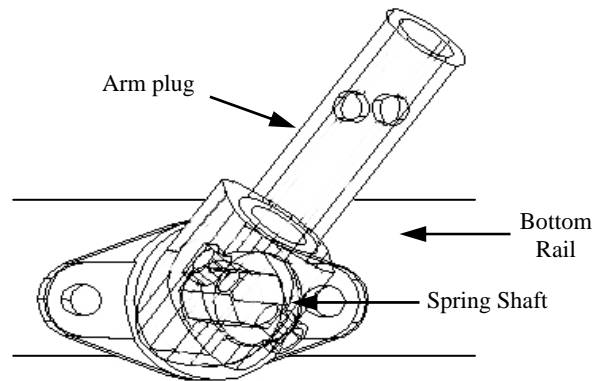

Figure 9a
After the arms are cut, the next step is to connect them to the spring shaft, *see figure 9a*. First slide the arm connector (L) onto the shaft and slide the arm onto the pipe on the arm connector (Note: the arm and connector should be pointing toward the rear of the dump body with the end of the arms resting on the ground). Slide the arm until it is against the plug on the connector, then, using a 3/8" drill bit, drill a hole through the arm and the pipe on the connector and fasten using a 3/8" x 2-1/2" hex Bolt, 3/8" flat washers, and a 3/8" nut. After bolting the arm to the arm connector, the next step is to get the proper spacing between the arms and the body.